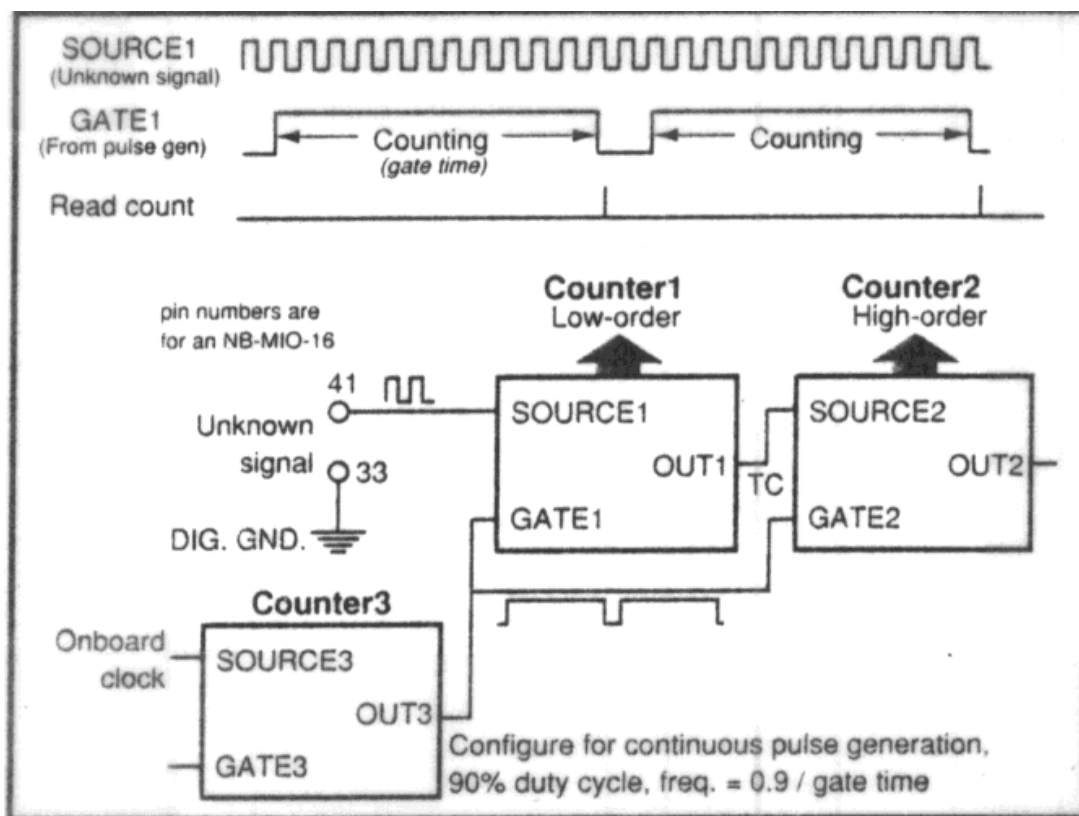

Figure 3. Counting with DAQ crystal clock timing.
**Software.** You will perform the counting operation using the vi, “Measure Frequency”. Timing will be generated by the crystal clock on the DAQ board using a separate counter (see Figure 3). You will be provided with a handout which describes this vi.